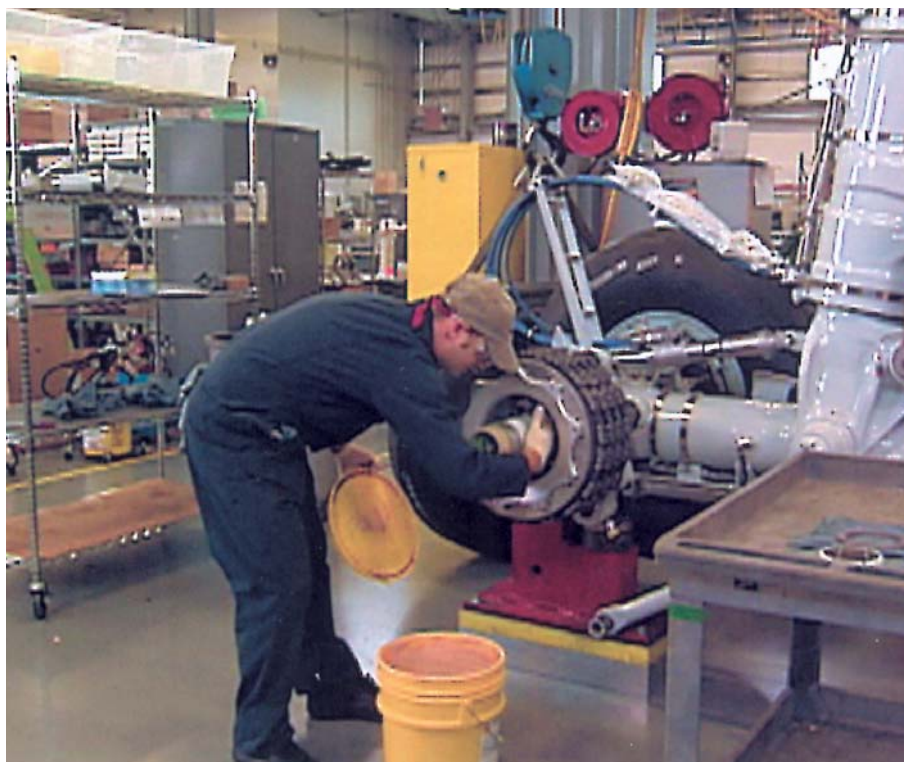

Figure 5: Thin layer of grease being applied to brake/axle sleeves
- Using only approved greases in small quantities. While it is important to have adequate lubrication within the wheel bearings, only a thin layer of grease is necessary at the wheel/axle interface for wheel/tire installations. Similarly, only a thin layer of grease needs to be applied to the interface surfaces of the brake and axle sleeves when installing brakes (see fig. 5). When applying grease to the axle bushings on the brake assembly, it is important to completely fill the grooves in the bushings with grease.